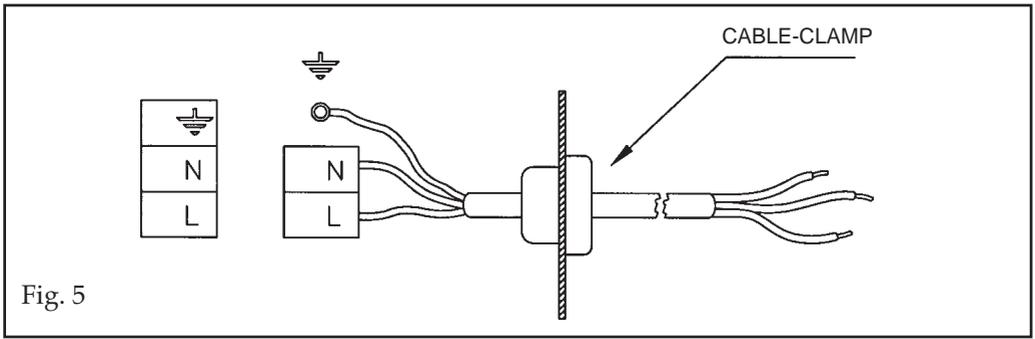

Fig. 5
(Fig. 5) Prior to carrying out the electrical connection, please ensure that:
- replace the injectors (Fig. 5) with the corresponding type of gas to be used (see table "Uses characteristics").